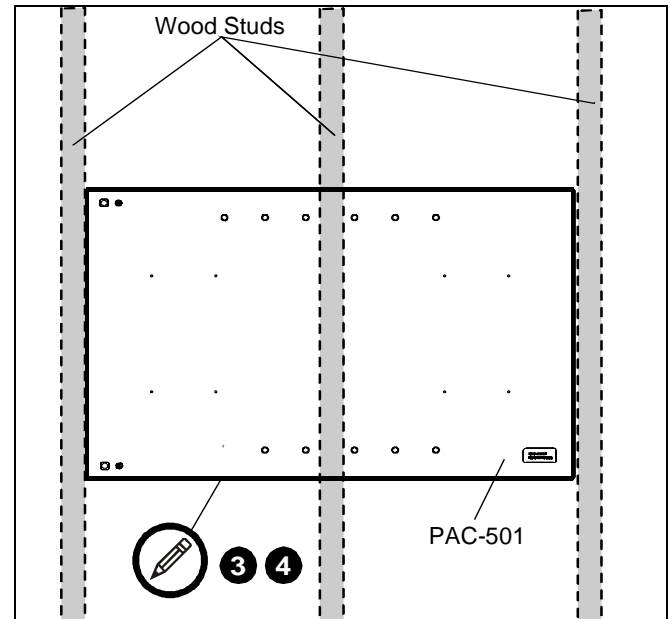

Figure 1
3. Center and level PAC501 housing between marked studs. (See Figure 1)
4. Using PAC501 housing as a template, draw pencil line around housing. (See Figure 1)
5. Cut drywall on *outside* edge of line and remove drywall. (See Figure 1) and (See Figure 2)